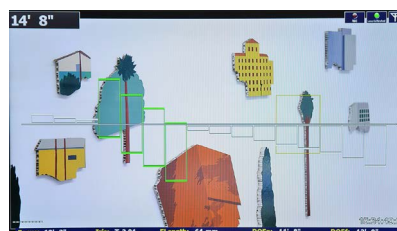

Fig. 16
6. When the focus knob setting is within the Depth of Field for subject 2, the LR2 switches automatically to AF mode (fig 16).